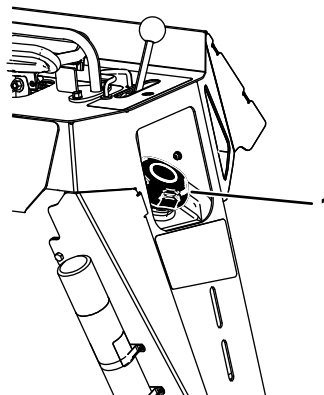

Figure 15
3. Clean around the fuel-tank cap and remove it (Figure 15).